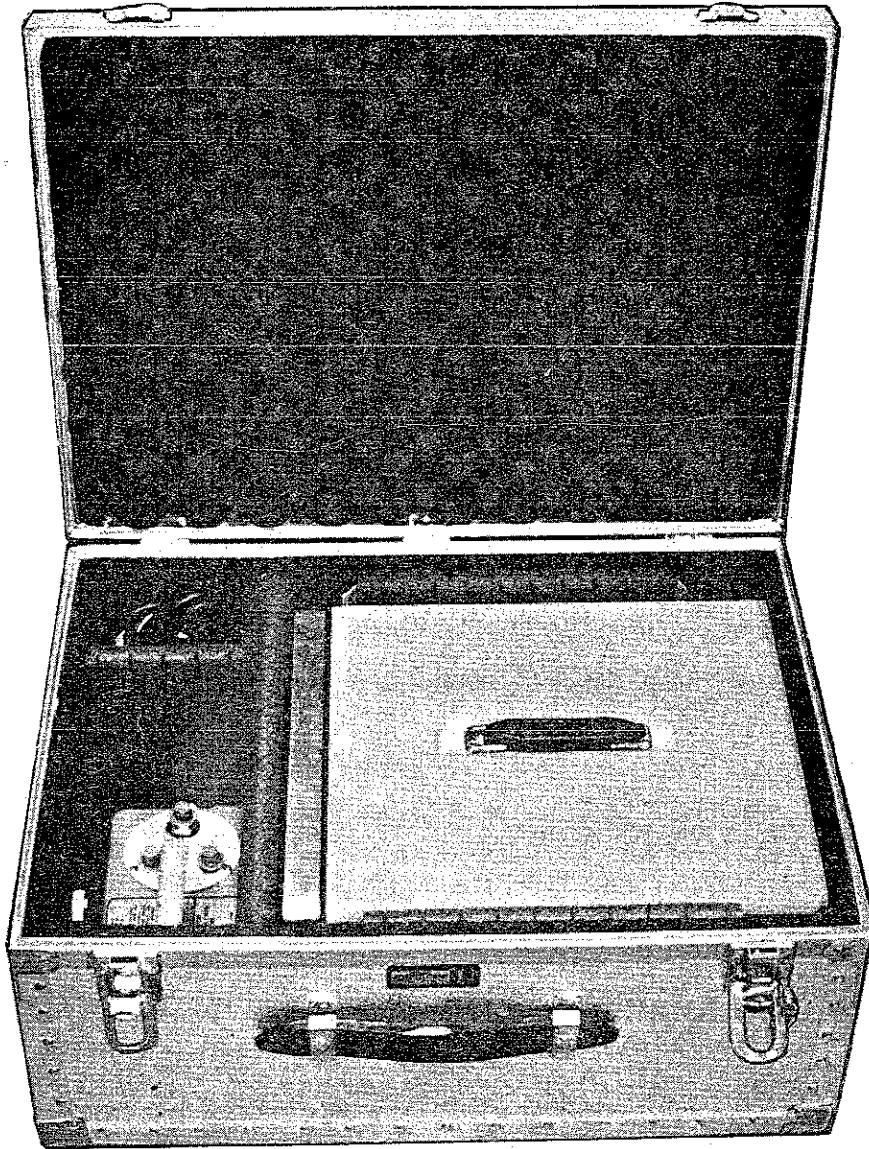

Figure No. 1: CDV-765 Transfer Standard Complete With Carrying Case
instrument clears the shipping container. Store all padding in the shipping case. If difficulty is encountered in remembering the packing position of various components when repacking, refer to Figure No. 1.
G. 3 - Mechanical Features: The entire system is housed in an aluminum clad, plywood carrying case. The case is lined with foam and equipped with locks. The carrying case is shown opened with the device properly packed inside in Figure No. 1 on page 3 of this manual.